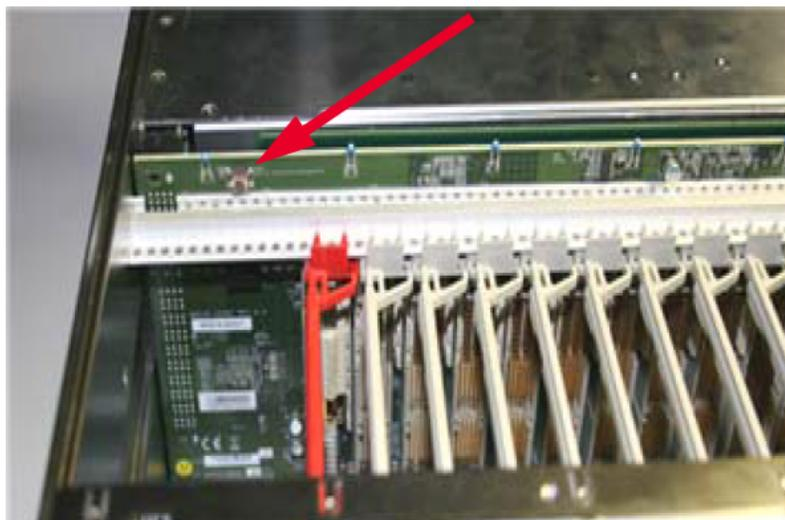

Figure 71 Load Base Configuration Pushbutton (M9018A only)
- 3 On the M9018A chassis, locate the Load Base Configuration Pushbutton at the top of the backplane behind the three-wide expansion slot to the left of slot 1—see Figure 71.